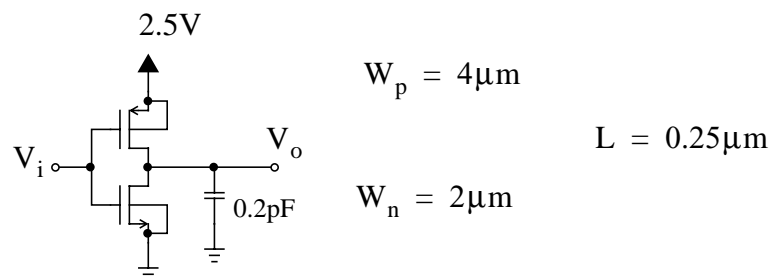

Figure 2: CMOS inverter
- P2) Draw the CMOS inverter of figure 2 in SUE, and setup your simulation to find its transfer characteristics and transient response satisfying the conditions below.